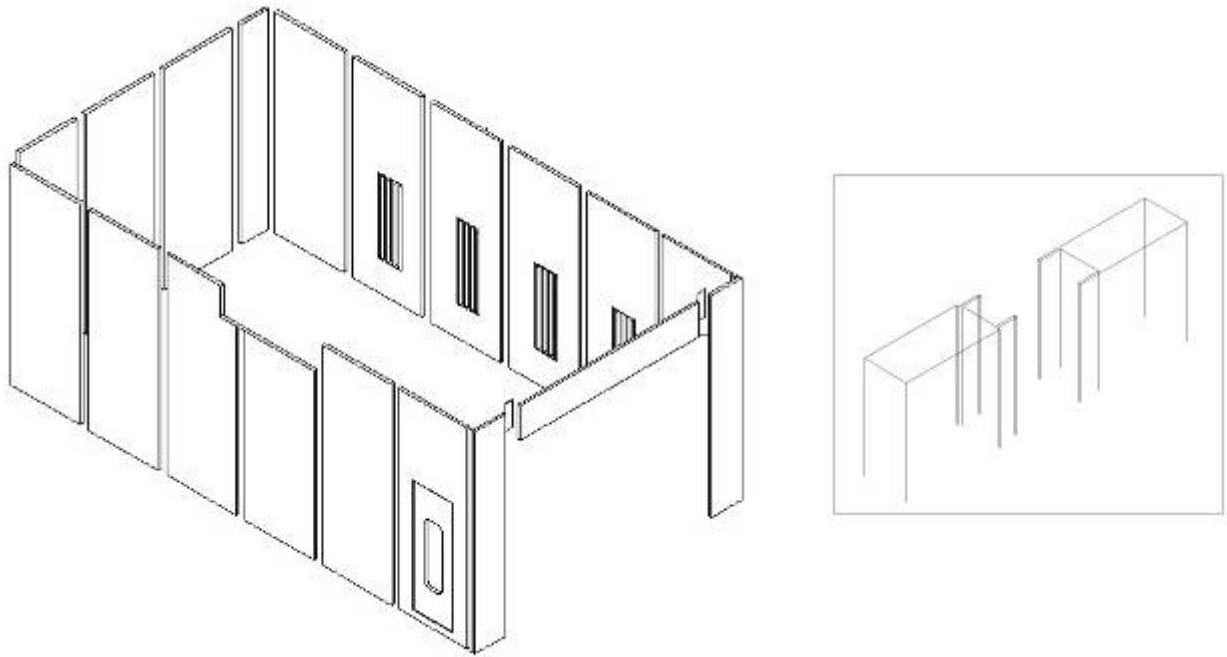

Fig. 3.8
1) connect the wall board in turn and fix them to the down U style slot with nail, make sure the gap should be smallest. Check the whole length of two sides wall board should be suit for the demand. (shown in Fig3.8)